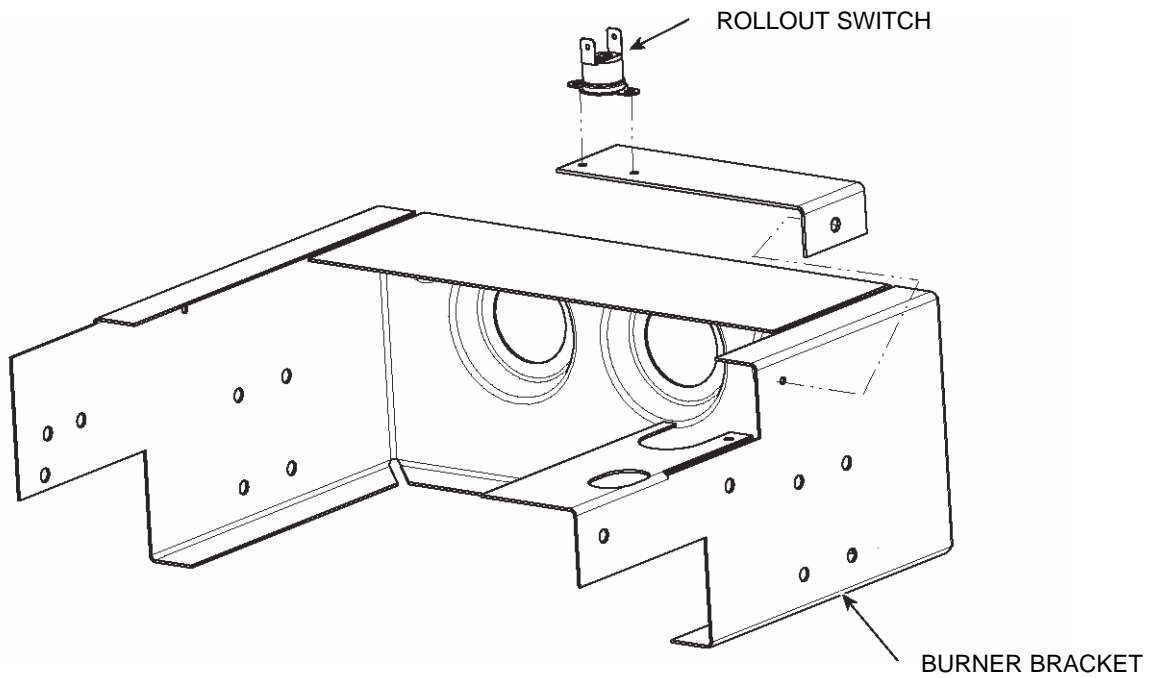

Figure 8
15. Install the 1/8 in. NPT x 3/4 in. (19 mm) close pipe nipple where the plug was removed. See Fig. 8. Use pipe thread dope or tape (field-supplied, must be certified for use with propane gas) for all joints, making sure not to get any excess in the pipe or valve. Next, install a 1/8 in. elbow, a 1/8 in. NPT x 3/4 in. (19 mm) close pipe nipple, 1/8 in. elbow, 1/8 in. x NPT 2 in. (51 mm) nipple, and a low gas pressure switch as shown in Fig. 8.